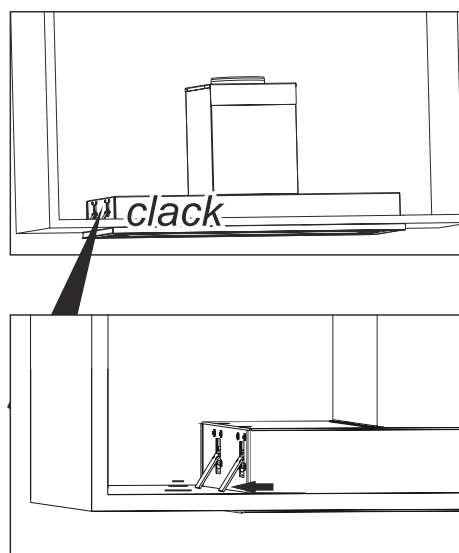

Fig. 17
5. ➔ Make sure that the hanger mechanism on the right and left short side of the hood locks the product(Fig. 17).